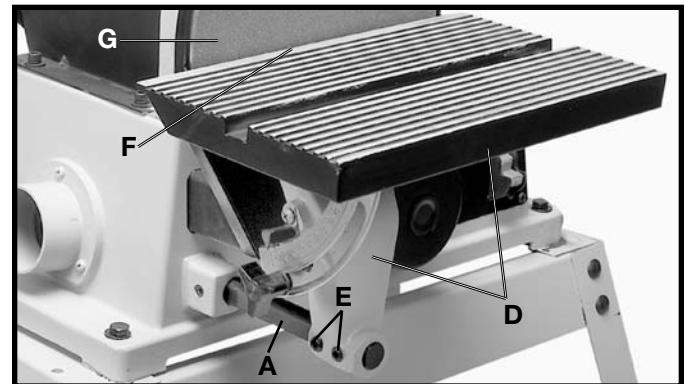

Fig. 15
2. Slide table assembly (D) Fig. 15, onto rod (A). Align flat on rod (A) with set screws (E) and tighten screws to hold table assembly (D) in position on support rod (A).
3. **WARNING:** To avoid trapping the work or fingers between sanding disc and table, the table edge (F) Fig. 15, should be positioned a maximum of 1/16" away from sanding disc (G). Loosen screws (E) and adjust table accordingly.